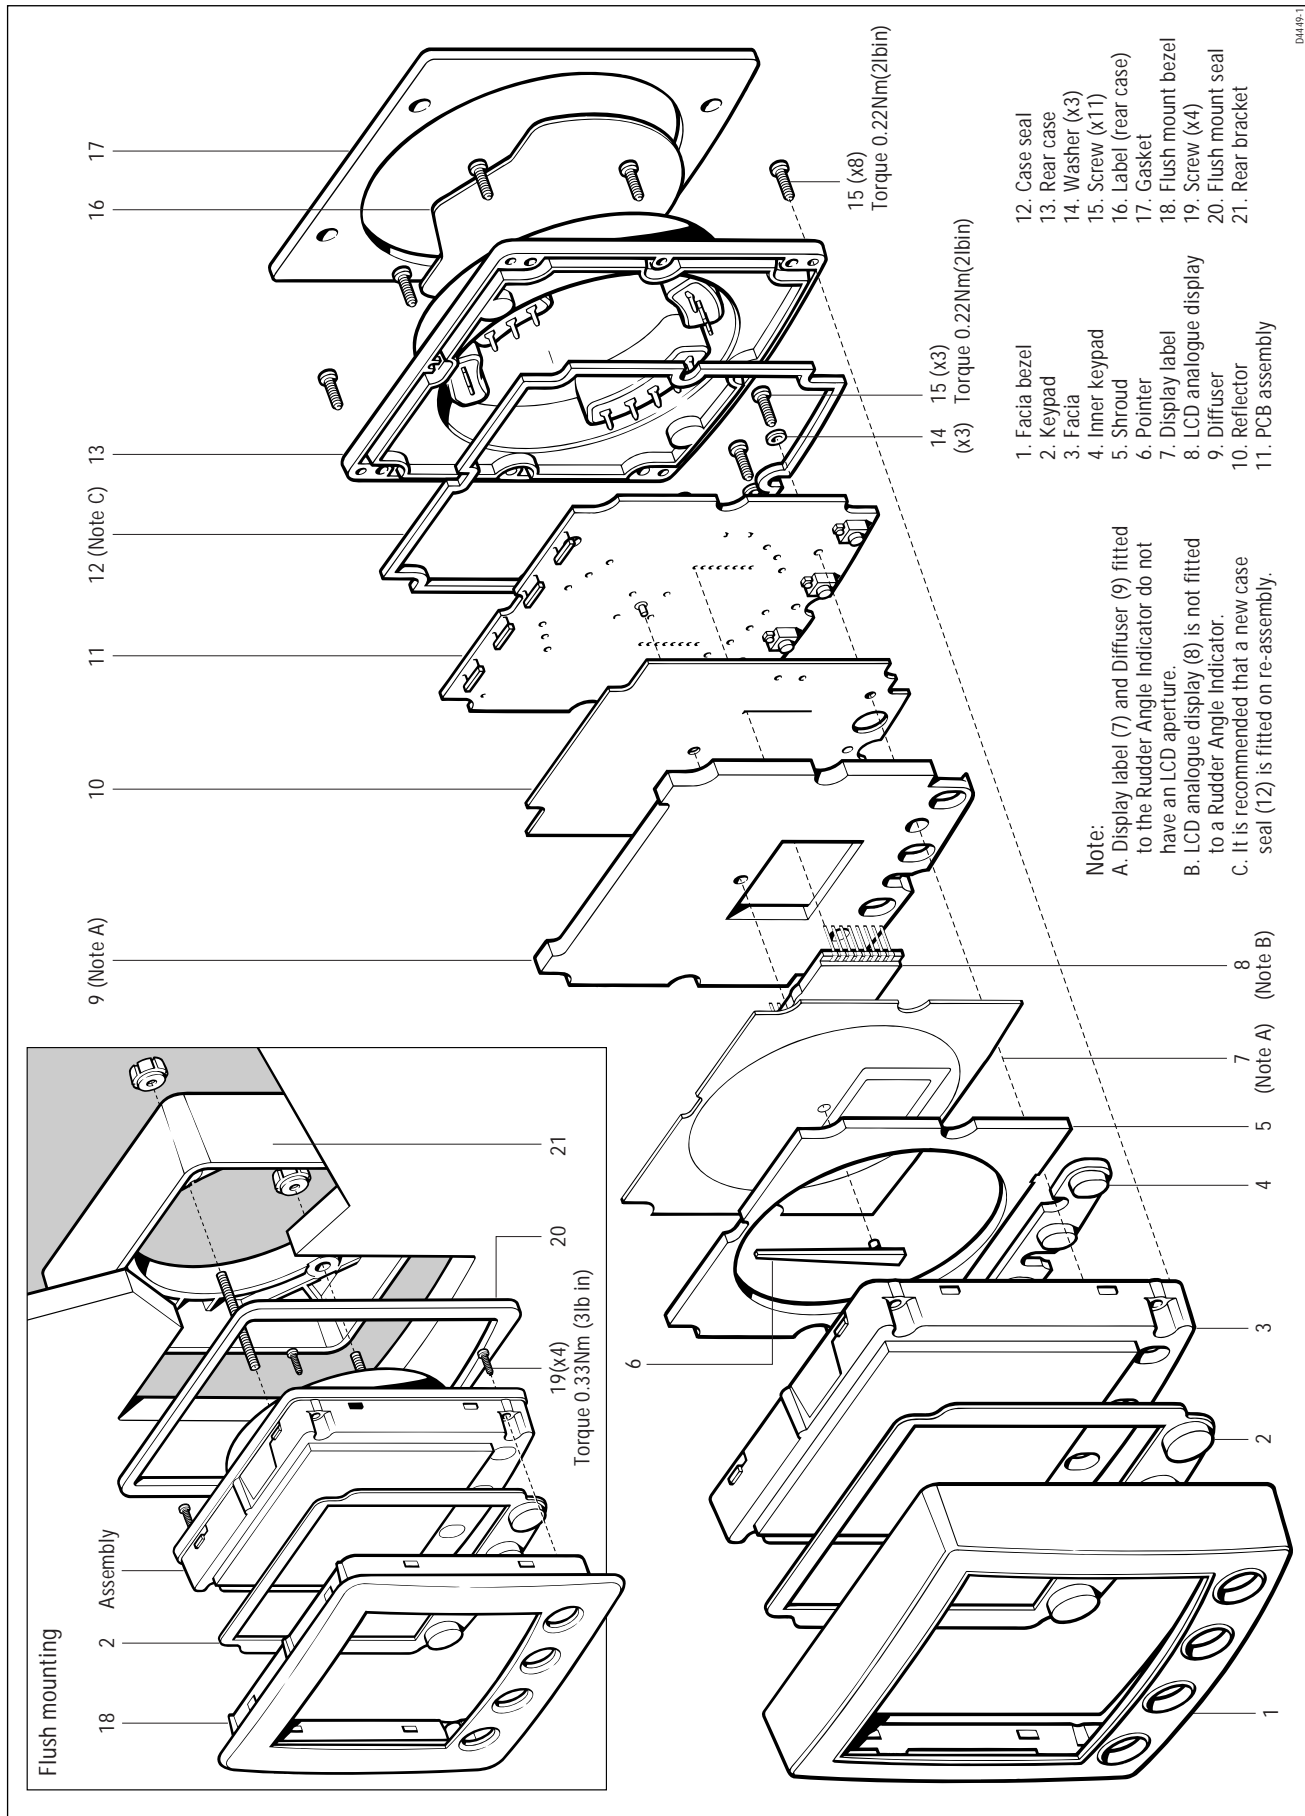

Figure 1: ST60 Wind, CH Wind, Compass and Rudder Angle Indicator Digital Instrument exploded view
On reassembly (refer to Figure 1), it is important that the PCB assembly module is fixed to the facia (3) using a torque of 0.22Nm (2lb in). Similarly, fixing the rear case (13) to the facia (3) must also be torqued to 0.22Nm (2lb in).